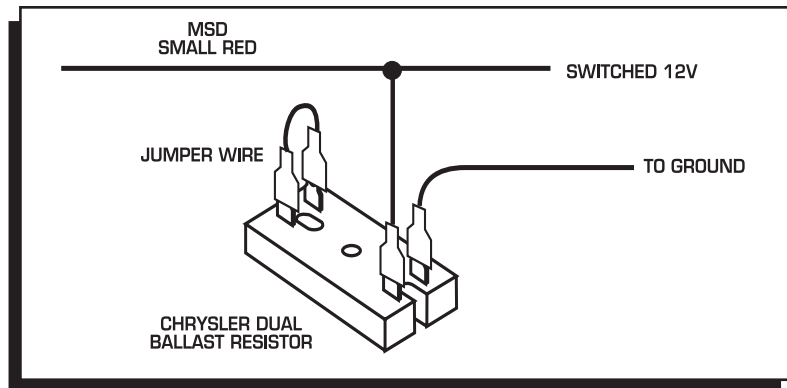

Figure 7 Wiring the Dual Ballast Resistor for Run-On.
**Most other applications:** On other applications where engine Run-On is experienced, a Resistor can be put in-line to the MSD's small Red wire (Figure 7). This resistor will keep voltage from leaking through to the MSD unit.